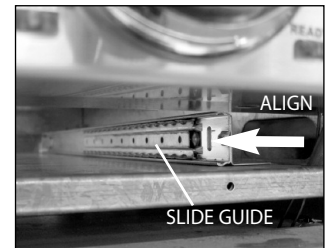

Fig. 15
- Align the side of the drip tray with the slide guides (Fig. 15).